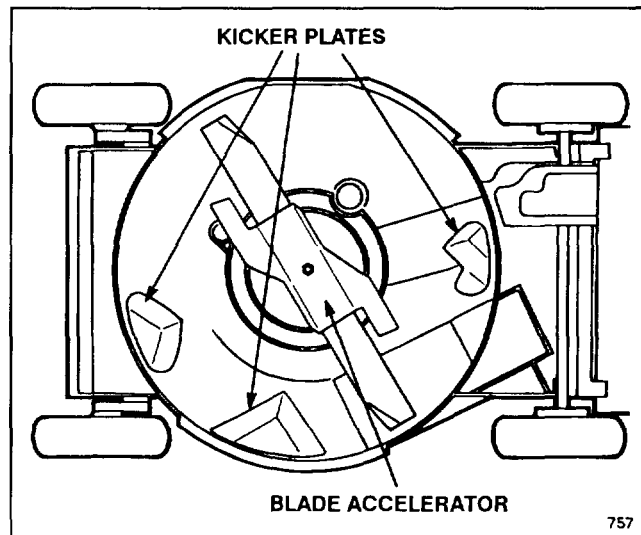

Figure 9
- B. Three special "kicker plates" positioned on the underside of the mower deck in strategic positions (Fig. 9)